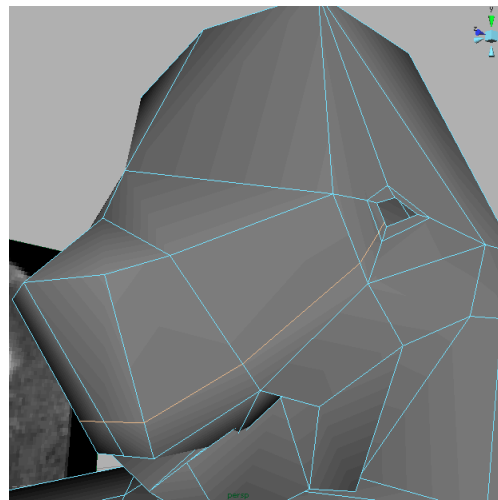

Figure 26: The faces in each eye are deleted, a new edge loop is inserted.
8. Use the insert edge loop tool to create an edge as shown in figure 26. The new edge wraps around the front of the face above the upper lip and stops at the corner of each eye.